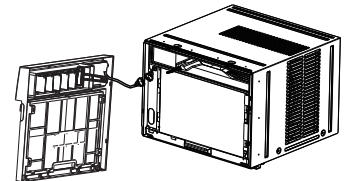

Fig. 4
6. Disconnect the connector plug of the display panel from the unit and place front panel to one side(see Fig.4).